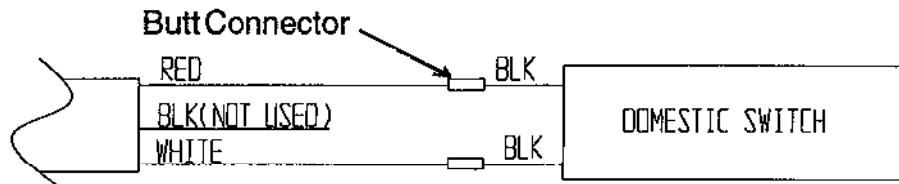

Figure 3
4. Cut off 3 Conductor Cable from switches. Tie back black wire. It will no longer be used. See Figure 3.
6. The new switch has two black wires coming off the back of switch. Butt connect red wire from 3 Conductor Cable to one of the black wires. Butt connect white wire from 3 Conductor Cable to remaining black wire of switch. See Figure 3.